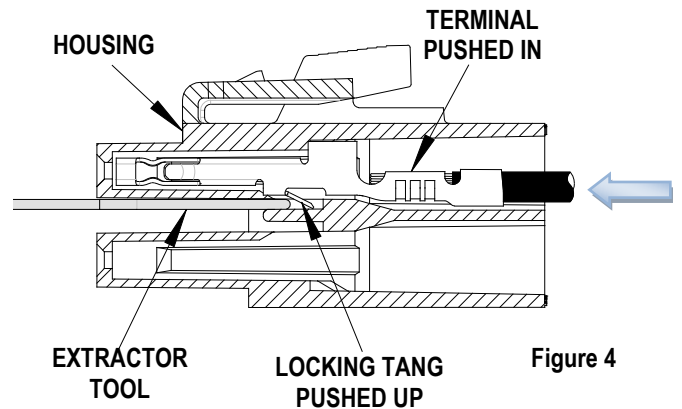

Figure 4
1. Push the terminal forward in the arrow direction before using the Extractor Tool as shown in Figure 4.